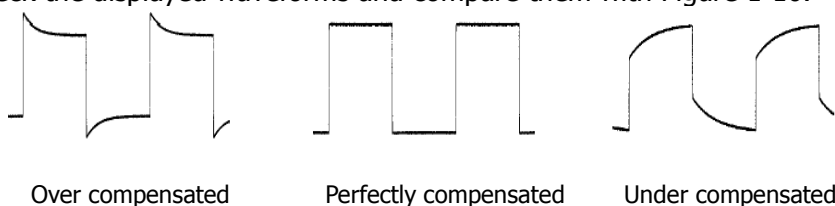

Figure 1-10 Probe Compensation
2. Check the displayed waveforms and compare them with Figure 1-10.